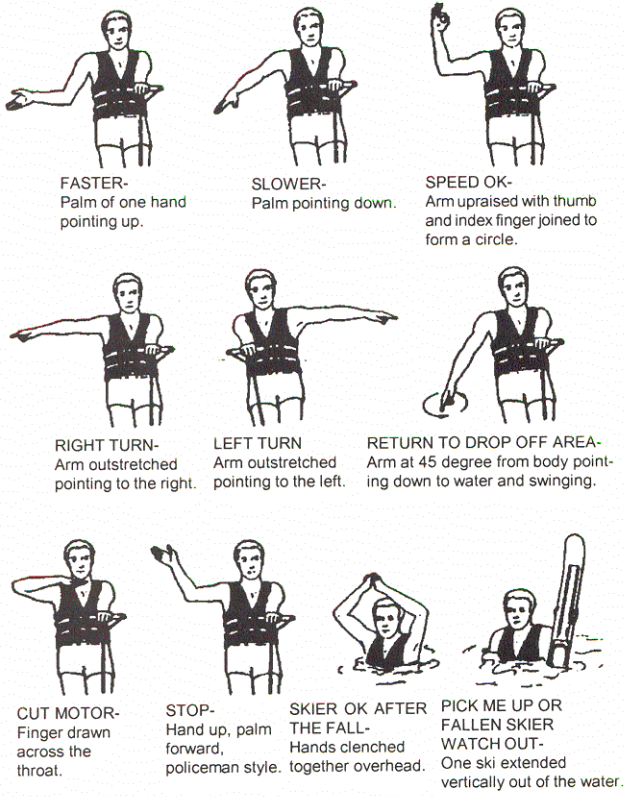

Figure J16: Skiing Signals
3. Have a second person aboard to observe the skier and inform the driver about the skier's hand signals (Figure J16). The driver must give full attention to operating the boat and the waters ahead.